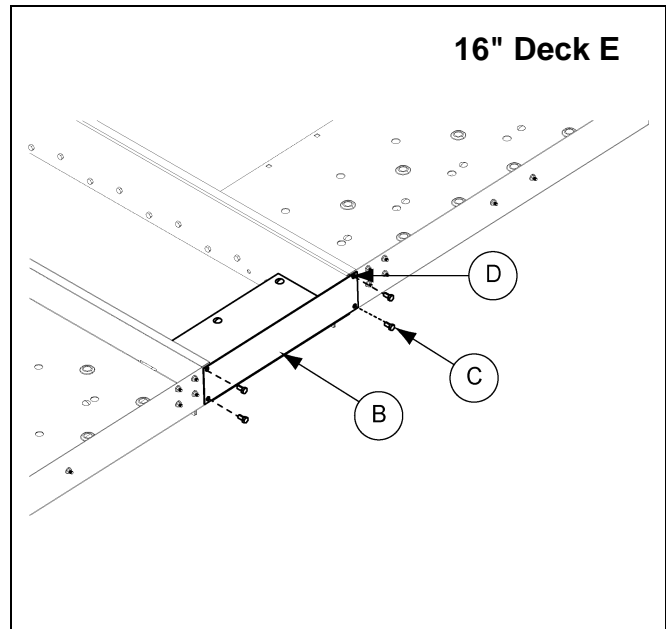

Figure 8L Deck Adapter Bracket to Decks
- Attach deck adapter bracket (HP1624AB) to Deck A, Deck C and toe boards using four (4) 3/8" x 1" bolts (S-7105) and nuts. (See Figure 8L.)